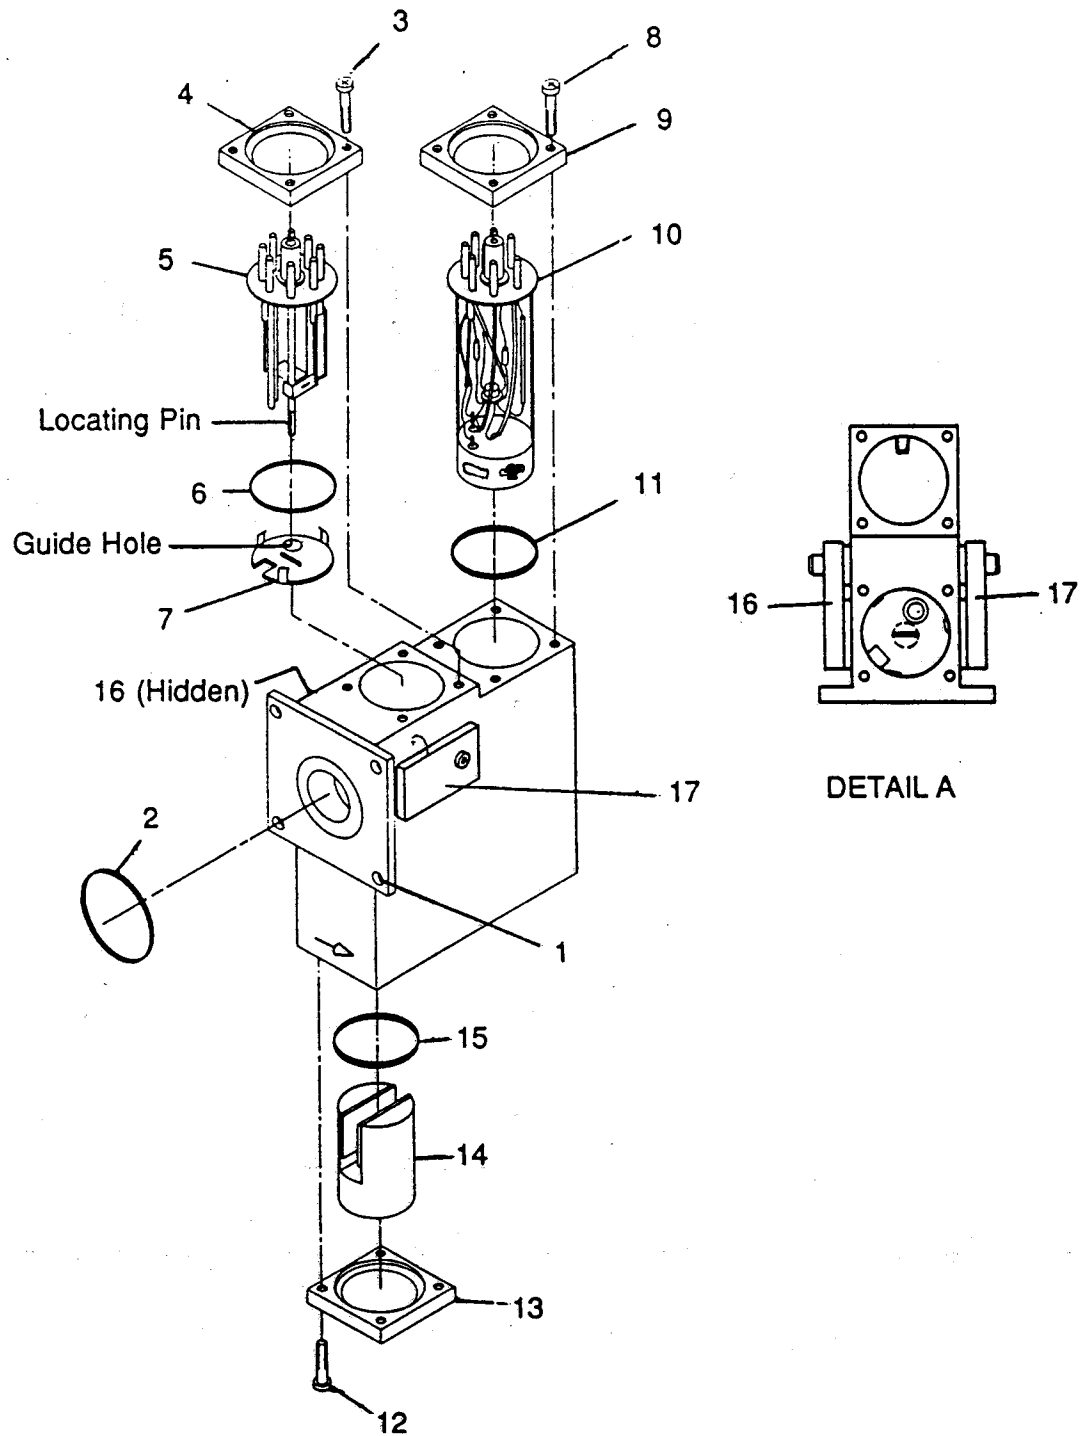

Figure 5-3. Spectrometer Tube Exploded View.
- 3 Place the locating pin of the new ion source approximately in the center of the guide hole as shown in Figure 5-3.
- 5 Remove the Allen screws (1, Figure 5-3) from the spectrometer tube flange.
- 6 Rock the spectrometer tube gently to break its vacuum. Look for and carefully remove the O-ring (2) under the flange. Note the position of the grounding strap.
- 8 Remove the four Phillips head screws (3) that hold the flange cap (4) onto the ion source (5).
- 9 Firmly but gently separate the flange cap (4) from the ion source (5). Note the O-ring (6) on the ion source; remove and discard both the O-ring and the ion source (Varian part no. 82850-302).
5-3-7 Assembly of the Spectrometer Tube (Refer to Figure 5-3)
- 1 Install a new groundslit plate (7) carefully. Be sure that the snappings fit snugly and are facing up. Using a long, thin screwdriver, align the slit at 90° with the side wall of the spectrometer tube. Concentrically align the circular hole in the plate with the smaller guide hole in the bottom of the ion source cavity (see Detail A, Figure 5-3).
- 2 Wipe a new O-ring (6) and the mating surfaces with a clean, lint-free cloth and place the new ion source (5) in its cavity by:
- c tightening the flange cap (4) evenly and firmly with the four Phillips head screws (3).
- 3 Wipe a new O-ring (11) and mating surfaces. Place the preamplifier (10) in its cavity with the O-ring in place. Orient the preamplifier so it is properly keyed. Tighten the flange cap (9) evenly and firmly using the four 9/64 Allen head cap screws (8).
- 4 Carefully place the analyzing magnet assembly in its cavity with a new O-ring. **Be sure to place the magnets so that the arrow on the analyzing magnets is perpendicular to the side of the spectrometer tube body. Check that the arrow is in the same direction as the arrows on the spectrometer tube body and enhancement magnets (see Figure 5-3).** Again, wipe the O-ring and mating surfaces with a clean, lint-free cloth and tighten the flange cap (5) evenly and firmly.
- 5 Wipe a new mounting O-ring (2) and mating surfaces with a clean, lint-free cloth. Hold the spectrometer tube with one hand and install four Allen screws (1). Tighten the screws evenly to insure a proper metal-to-metal seal. Remember to attach the grounding wire.
- 1 While the spectrometer tube is disassembled from the pumping system frame, secure the rear magnet (closest to the pumping system frame). Check that the arrow on the magnet matches the direction of the arrow on the body of the spectrometer tube (see Figure 5-3).